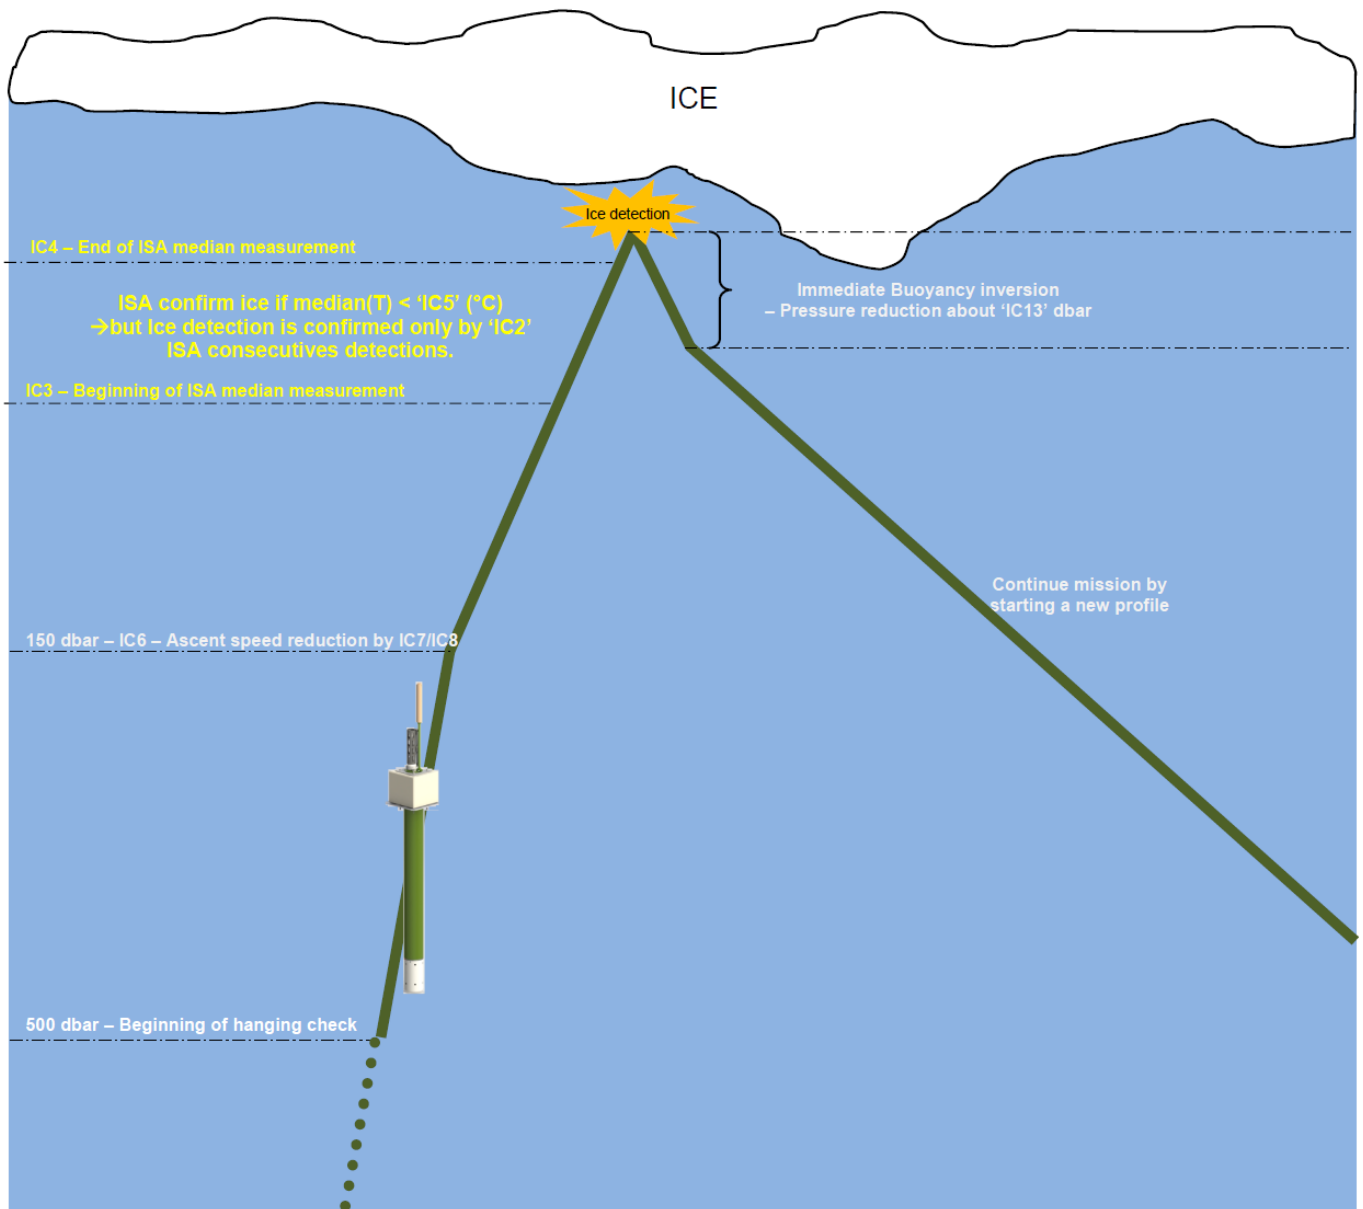

Figure 5 – Ice detection mechanisms
- Possibility to program 2 Mission schemes (2 cycle period, with associated Parking and Profile Depth) (see figure 5 on page 33 for more details about cycle possibility)